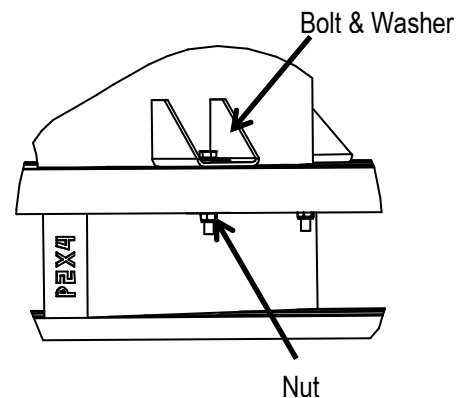

Figure 7
2. Unbolt the compressor feet by removing the fasteners. Discard them after removal. (Figure 7)